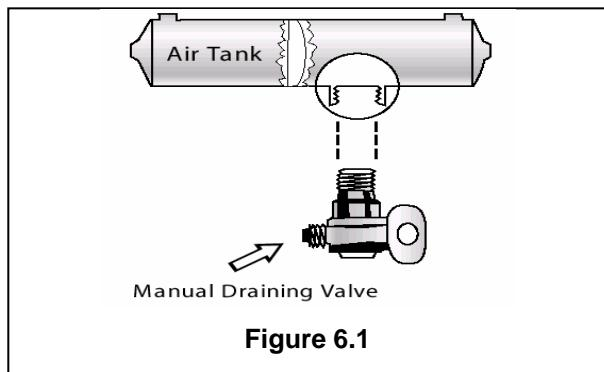

Figure 6.1
- Manually operated by turning a quarter turn or by pulling a cable. You must drain the tanks yourself at the end of each day of driving. See Figure 6.1.